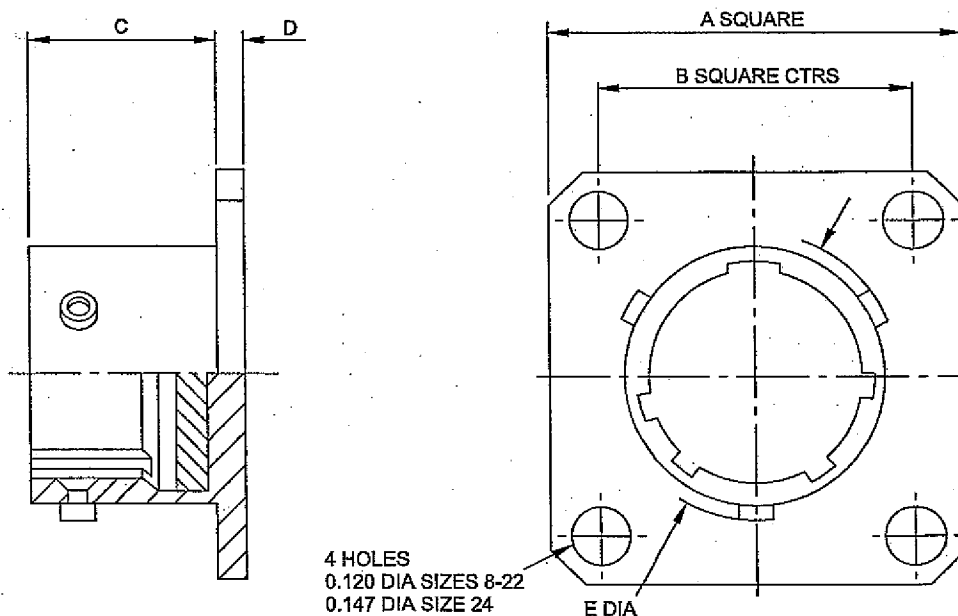

Fig 28. Dummy stowage receptacle, dimensions
18.2 Details of the normal oriented dummy receptacles which conform to MS3115 are given in Fig 28 and Table 17.